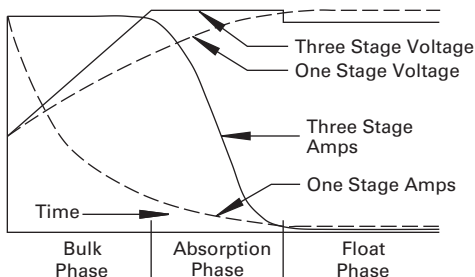

FIGURE 9-21: One and Three Stage Charging
*stage* charge that begins charging with a high current that drops rapidly so charging time is lengthened considerably. The dotted lines on figure 9-21 show how the voltage and current behave over the charging cycle with a single stage regulator or charger.
The curves in figure 9-21 are not for any particular battery; rather they are just for illustrating the concept of three stage charging. Actual curves vary by battery model and manufacturer and also will be different for wet-cell, gel-cell, and AGM battery types.
A *three stage* charger or regulator manages the charging process in three separate stages or phases in order to charge the battery in the minimum amount of time but without excessive gassing or overcharging. The solid lines on figure 9-21 show how the voltage and current behave over the charging cycle with a three stage regulator or charger.
One can see in figure 9-21 the dramatic difference in current delivery from a one stage and three stage charging system. The single stage regulator or charger just isn't going to get the house batteries charged during an eight hour run. If a boat is going to be out for more than a couple of days and drawing power from the batteries every night, a three stage charging system isn't just a nice option, it's a necessity.